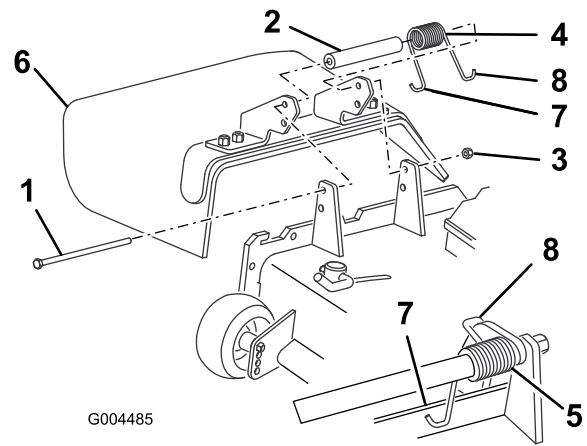

Figure 78
- Place the spacer and spring between the replacement grass deflector brackets (Figure 78). Place the left hand J hook end of the spring behind the deck edge.
Note: Make sure the left hand J hook end of the spring is installed behind the deck edge before installing the bolt as shown in Figure 78.
- Install the bolt and nut. Place the right hand J hook end of the spring around the grass deflector (Figure 78).
- Remove the locknut, bolt, spring and spacer holding the deflector to the pivot brackets (Figure 78). Remove damaged or worn grass deflector.